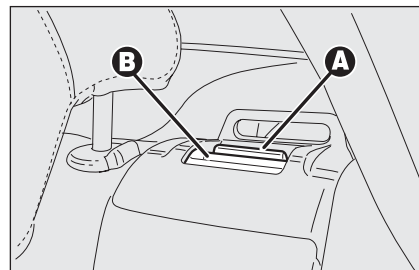

fig. 29
- ☐ pull up lever **A**-fig. 29 and tilt the rear seat backrest forward (a "red band" **B** will appear);